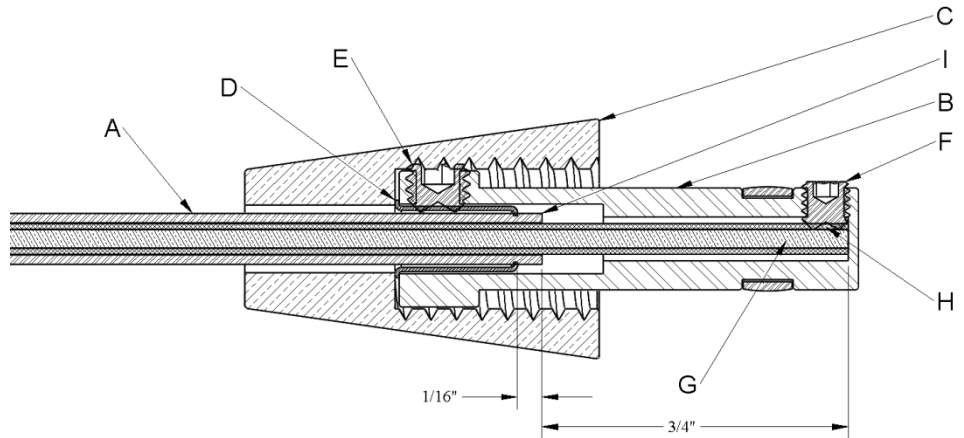

Figure 1 - Coaxial Cable and Connector Assembled
## To Install (Figure 1)
(Figure 1)
1. The outer braided shield (I) of the coaxial cable (A) is stripped back 3/4" as shown in Figure 1.
2. The M3 Set Screw (F) is tightened until “Tight”, when the 1.5MM Allen Wrench starts to flex.
3. The M4 Set Screw (E) is tightened inward until it no longer causes an interference with the Conical Nipple (C). It will begin to crush the Strain Relief Tube (D).